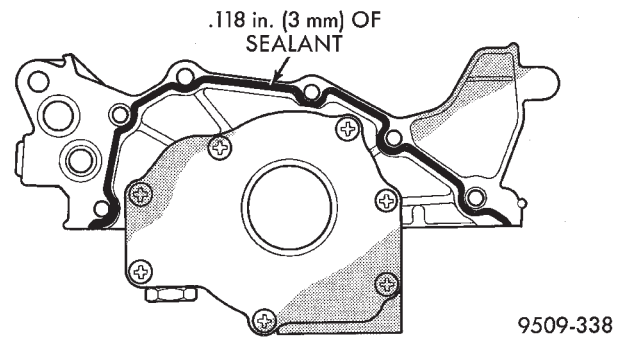

Fig. 86 Oil Pump Sealing
- (1) Clean block and pump sealing surfaces.
- (2) Prime oil pump before installation by filling rotor cavity with clean engine oil.
- (3) Apply Mopar® Gasket Maker to oil pump as shown in (Fig. 86). Install oil-ring into the counter bore on the oil pump body discharge passage.